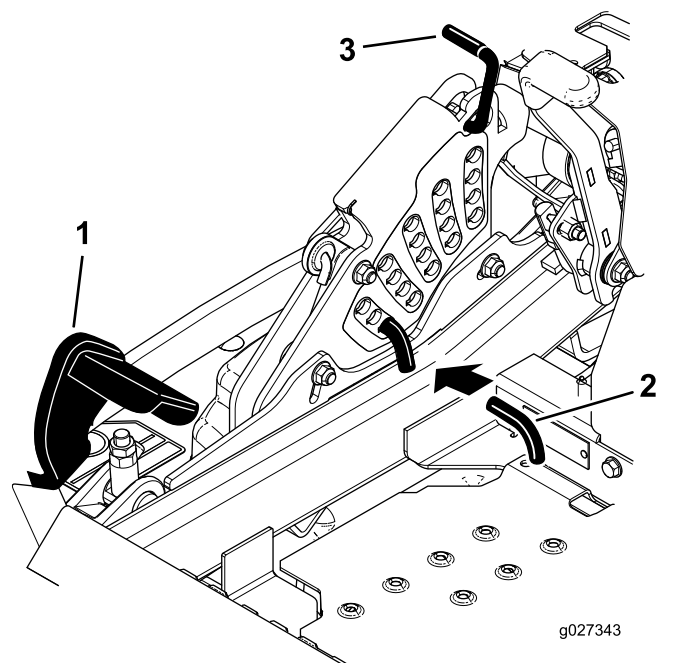

Figure 27
2. Push on the deck-lift pedal with your foot, and raise the mower deck to the transport position (also the 140 mm (5-1/2 inch) cutting height position) as shown in Figure 27.
3. To adjust, rotate the pin 90 degrees and remove the pin from the height-of-cut bracket (Figure 27).
4. Select a hole in the height-of-cut bracket corresponding to the height-of-cut desired, and insert the pin (Figure 27).